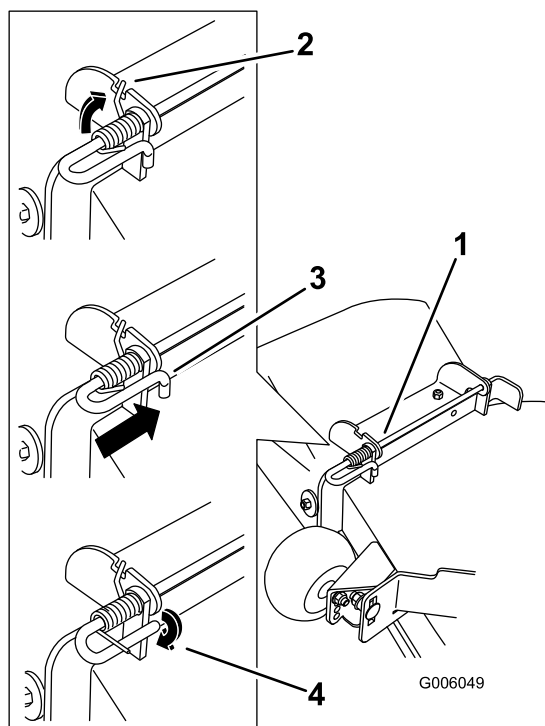

Figure 72
4. Lift the loop end of the spring and place it into the notch on the deflector assembly bracket (Figure 72).
5. Secure the rod and spring assembly by twisting it so the short end of the rod can be placed behind the front bracket welded to the deck (Figure 72).